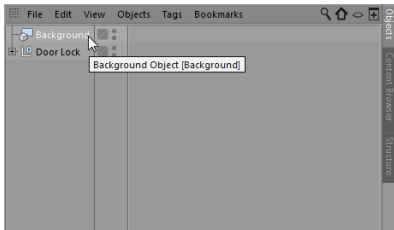
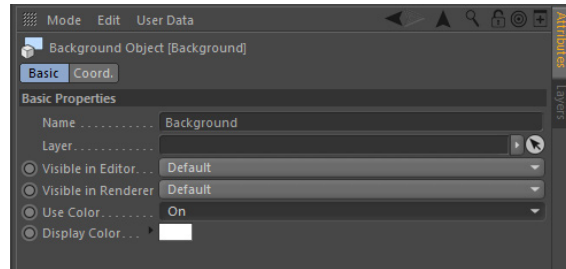

Figure 2-26 The *Background* Object selected in the Object Manager
Figure 2-27 The *Display Color* parameter activated
2. Make sure *Background* is selected in the Object Manager, as shown in Figure 2-26. In the Attribute Manager, choose the **Basic** button; the **Basic Properties** area is displayed. In this area, select **On** from the **Use Color** drop-down list. On doing so, the **Display Color** parameter is activated, as shown in Figure 2-27. By default, the white color is selected in this spinner. As a result, the background color changes to white.